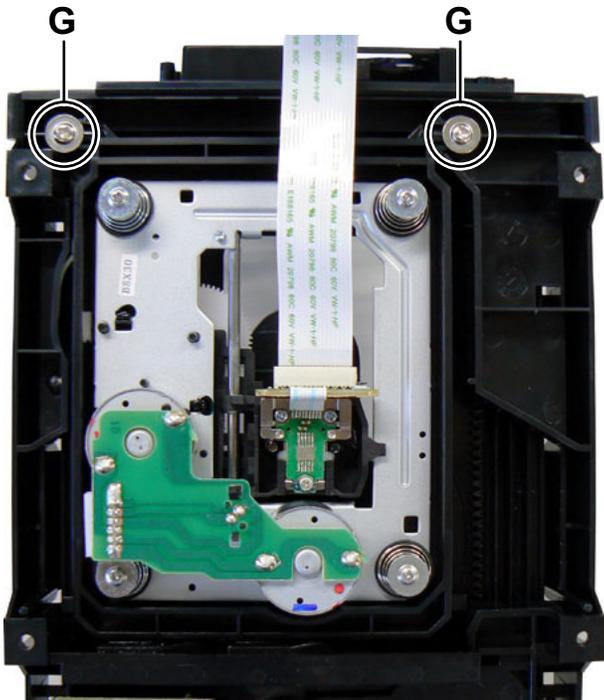

Fig.11
3.1.6 Removing the Traverse mechanism (See Fig.11)